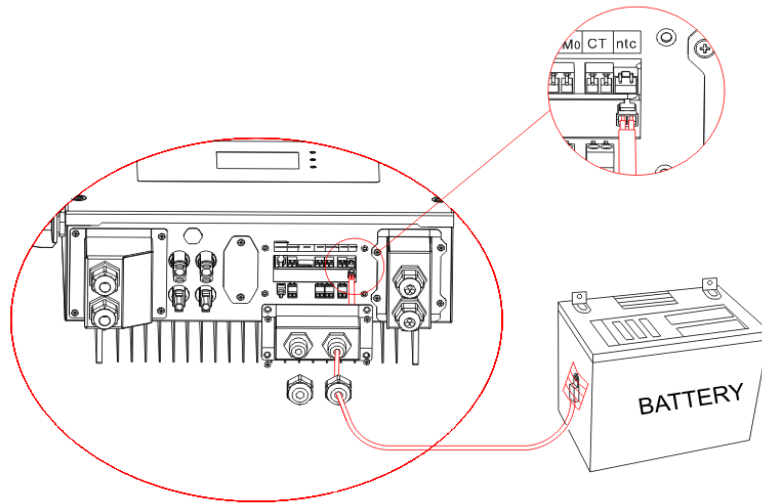

Fig. 13 NTC connection
**Step 7:** Connect NTC for lead acid batteries only: make the NTC to the battery surface with the tape, NTC can't close to the positive and negative of the battery, As shown in figure 13